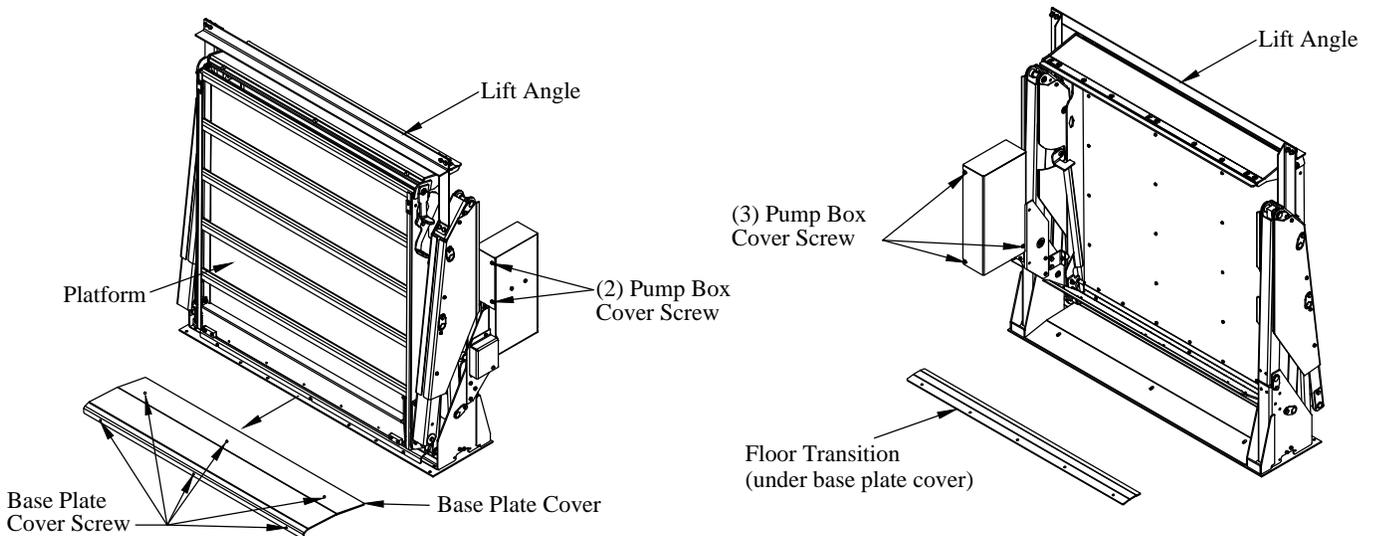

Figure 3: Base plate cover and pump box.
3. **Remove** the pump box cover by removing five (5) screws (Figure 3).
6. **Remove** and **Save** the six (6) screws fastening the base plate cover to the base plate (Figure 3).
7. **Remove** and **Save** base plate cover (Figure 3).
10. **Lift** the liftgate by the lifting angle with a fork truck or hoist (Figure 3).